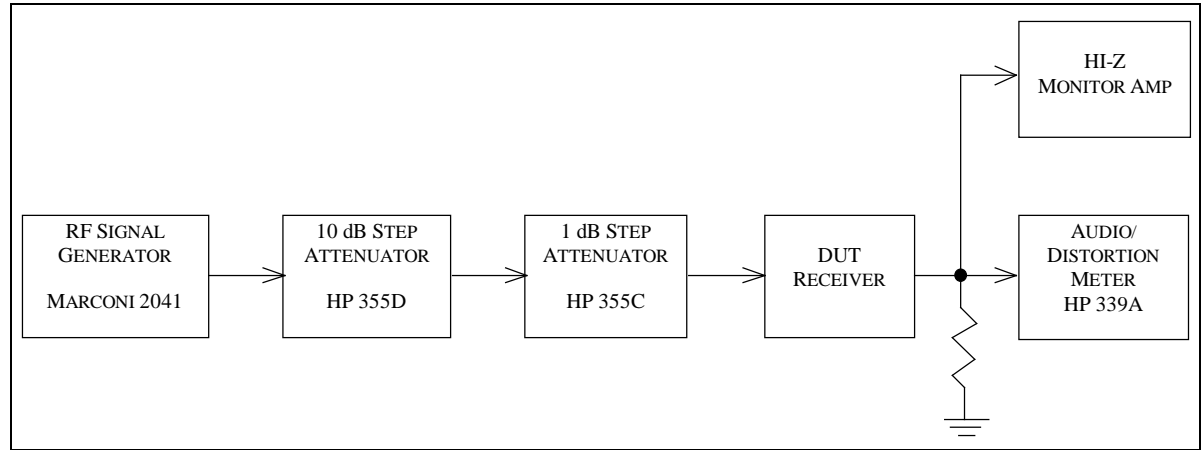

Fig. 5-4 — Receive Frequency Range Test Hook-up
5.4.2 Test hook-up (See Fig. 5-4)